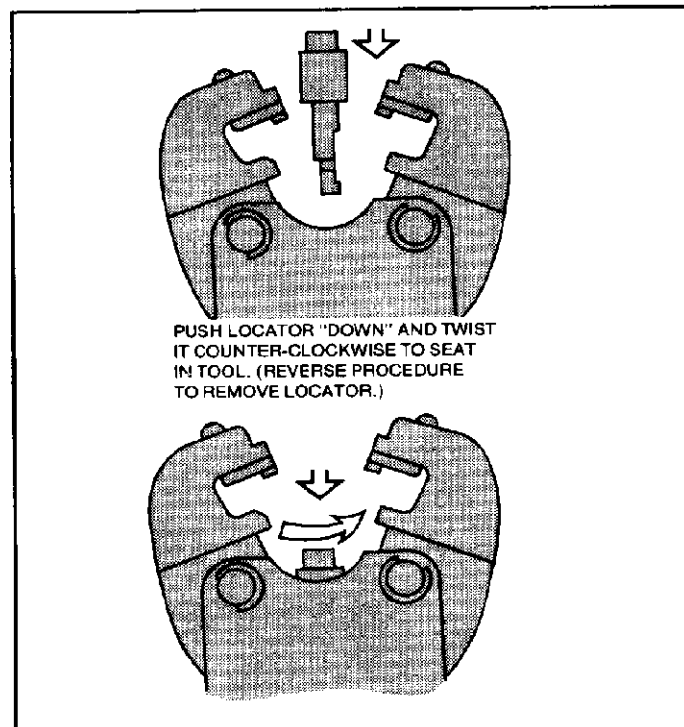

Figure 9
- (c) Insert shank of locator into ram in tool. See Figure 9.